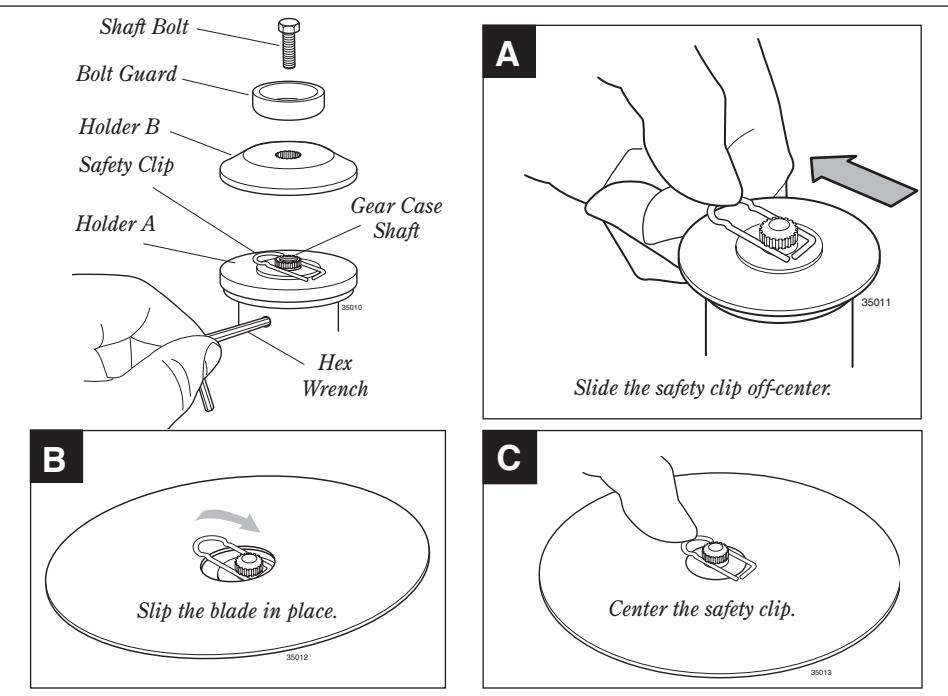

Figure 12
- With the gear case output shaft facing up, rotate the gearshaft and Holder A until the hole in Holder A aligns with the matching hole in the gear case flange, and then lock the holder to the gear case by inserting the long end of the hex wrench through both holes. See Figure 12.
- Remove the shaft bolt, bolt guard and Holder B. See Figure 12.